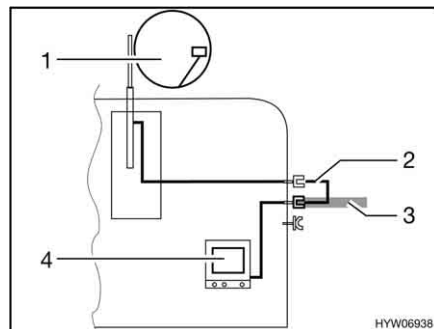

Fig. 133 TV inside the vehicle
- TV inside the vehicle (Fig. 133,4): Connection to roof antenna (Fig. 133,1) with connection cable (Fig. 133,2)
- TV inside the vehicle (Fig. 133,4): Connection to external antenna (Fig. 133,3)